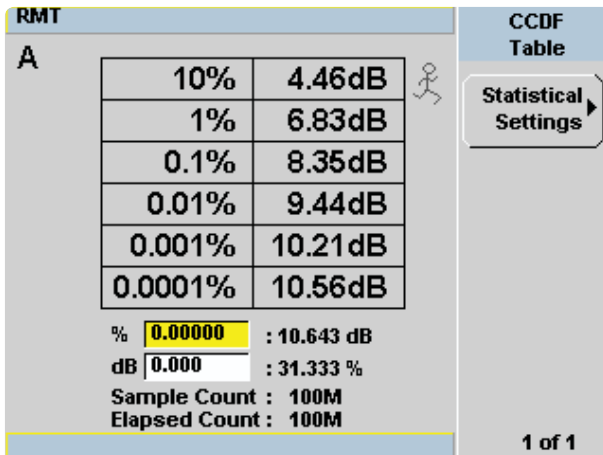

Figure 13. CCDF table format
The P-Series power meter provides waveform CCDF measurement in graphical and table formats (See Figure 12 and Figure 13). In Figure 11, the Signal Studio under waveform setup shows that the CCDF plot and the table to the left of the CCDF plot display the calculated peak-to-average values. The blue line represents the Gaussian noise and the yellow line represents the input signal. Prior to measurement, a reference trace is set and compared with the Gaussian noise trace.
6. Set the CCDF in table format and expand the display. (See Figure 13).	[Disp], {Disp Type}, {1 of 2}, {CCDF Table}, [].